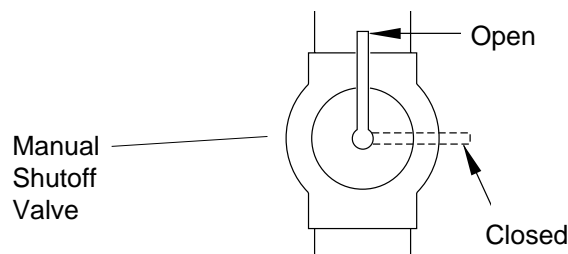

Figure 21 - Manual Shutoff Valve
1. Close manual shutoff valve (see Figure 21).
3. Check all joints from gas meter to manual shutoff valve (see Figure 21). Apply mixture of liquid soap and water to gas joints. Bubbles forming show a leak.
1. Open manual shutoff valve (see Figure 21).